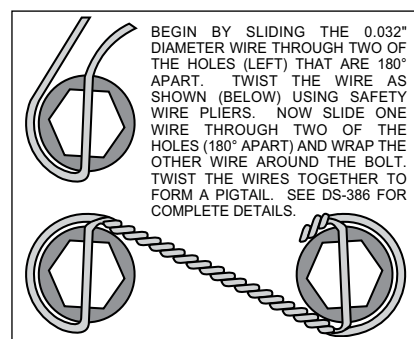

Figure 5. Safety Wire Diagram
- With the larger I.D. side of the rotor (4) facing away from the hat (3), bolt rotor (4) to hat (3) through the backside of the rotor using washers (5) and bolts (6). Apply red *Loctite*® 271 to the bolt threads and torque to 155 **in-lb** using a criss-cross pattern. For an added measure of security, the bolts may be safety wired using standard 0.032 inch diameter stainless steel safety wire as shown in Figure 5. Please refer to Wilwood's data sheet DS-386 (available at www.wilwood.com/Pdf/DataSheets/ds386.pdf) for complete safety wire installation instructions.
- Slide the rotor registration adapter (18) onto the axle register on the axle flange with the smaller O.D. facing toward the rotor/hat (3). Align the correct hole pattern in the hat with the stud pattern on the axle flange. **NOTE:** Some OEM and aftermarket axles come with stud sizes larger than 0.50" diameter. Verify stud size and have a qualified machine shop drill the hats to the correct size, if necessary. Slide the hat/rotor assembly (3 and 4) over the wheel studs covering the bracket kit assembly (1) and against the axle flange face. Check to be sure the hat seats squarely against the hub. Install a couple of lug nuts (finger tighten) to keep the rotor/hat assembly in place while continuing with the installation.